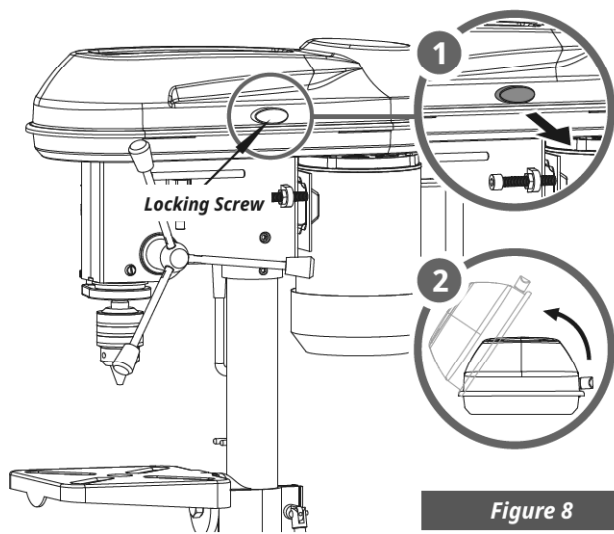

Figure 8
2. Open the gear cover. (See Figure 8)